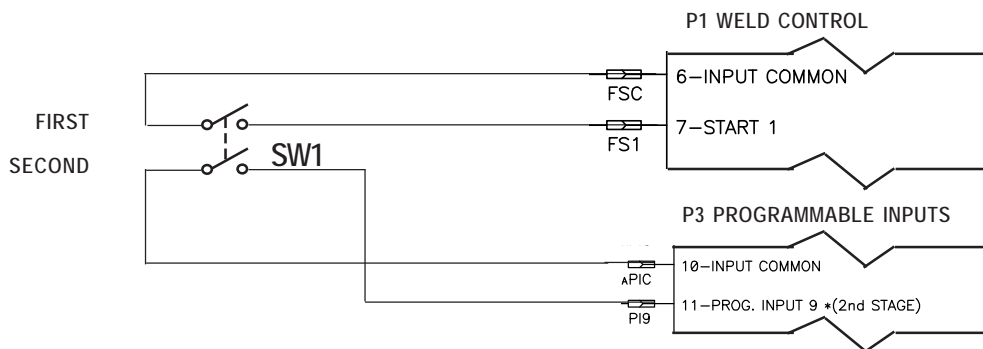

Figure 4-9. Single two-stage foot switches connection diagram
1. Connect as shown in Figure 4-9. Activating foot switch SW1 will initiate welding sequence in SCHEDULE 0.